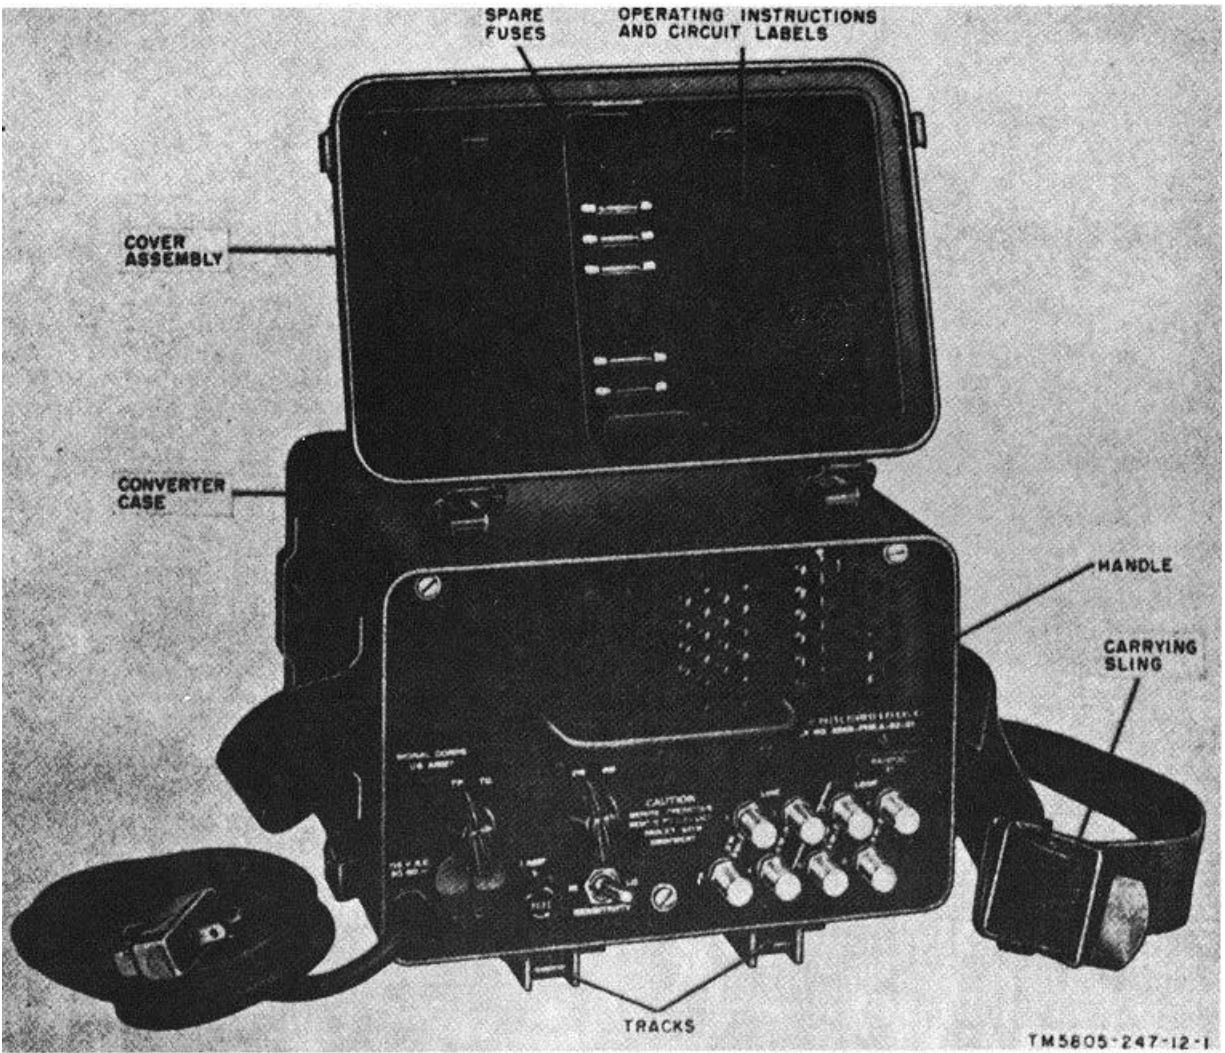

Figure 1-1. Converter, Telegraph-Telephone Signal TA-182/U, less Spare electron tubes and spare lamp.
a. This manual describes Converter, Telegraph-Telephone Signal TA-182/U (fig. 1-1), and covers its installation, operation, and operator's and organizational maintenance.
(fig. 1-1)